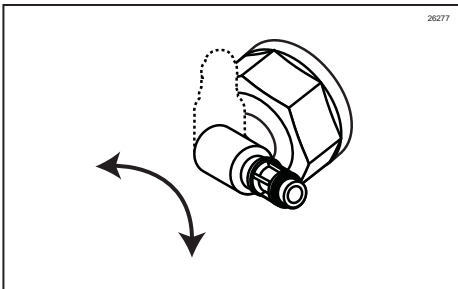

Figure 166
12. Turn the adapter valve toward the syrup line while holding the adapter base. Syrup lines may be installed in any position as long as the syrup tubes are not pinched. (See Figure 166.)